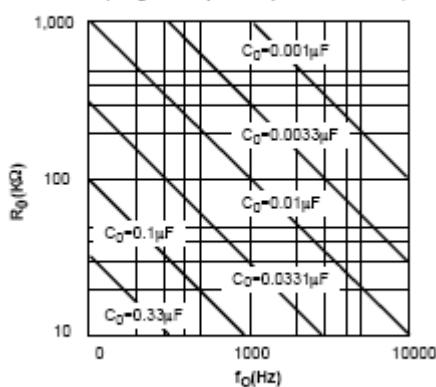

Figure 7. VCO Frequency vs. Timing Capacitor
- Calculate value of C_0 from design equation (1) or from Figure 7:
- Calculate value of C_0 from design equation (1) or from *Figure 7* $f_S = f_0$: